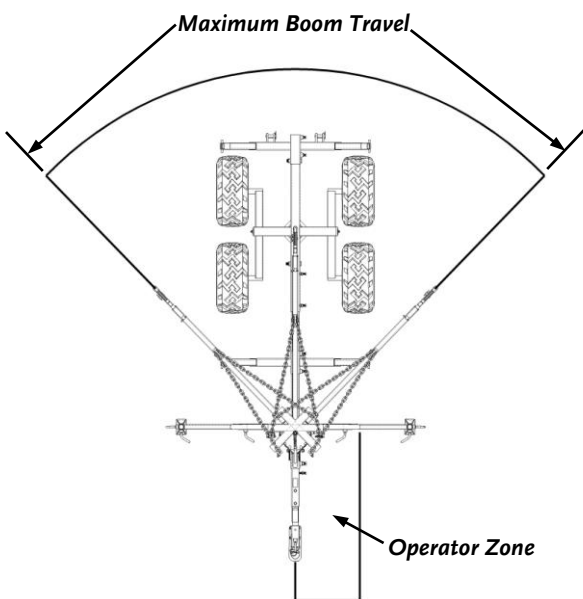

Figure 52
- Always stand on the Crank Handle side of the Winch (**Figure 52**), never directly in line with the Winch Cable, and always behind the Operator Guard! If the Winch Cable is kinked, frayed, or otherwise damaged, do not use it. Replace the Cable immediately.
- Always make sure there are no hazards such as Fuel Tanks, Electrical Boxes, or other objects that could cause a fire, electrical shock or other potential hazard if damaged, under the item being lifted, or within the area of Maximum Boom Travel as shown in **Figure 52**.
2. Use the Winch to load the Logs by rotating the Boom to either side of the Dump Bed by using the Boom Swivel (**Figure 1**, page 6). To rotate the Boom, push the Pivot Lock Handle inwards until it pivots out to clear the Boom Pivot. Rotate the Crane in the desired direction and release the Pivot Lock Handle so it seats itself back into one of the Locking Detents on the Boom Pivot. Refer to **Figure 52** for the maximum Boom travel and Operator position.